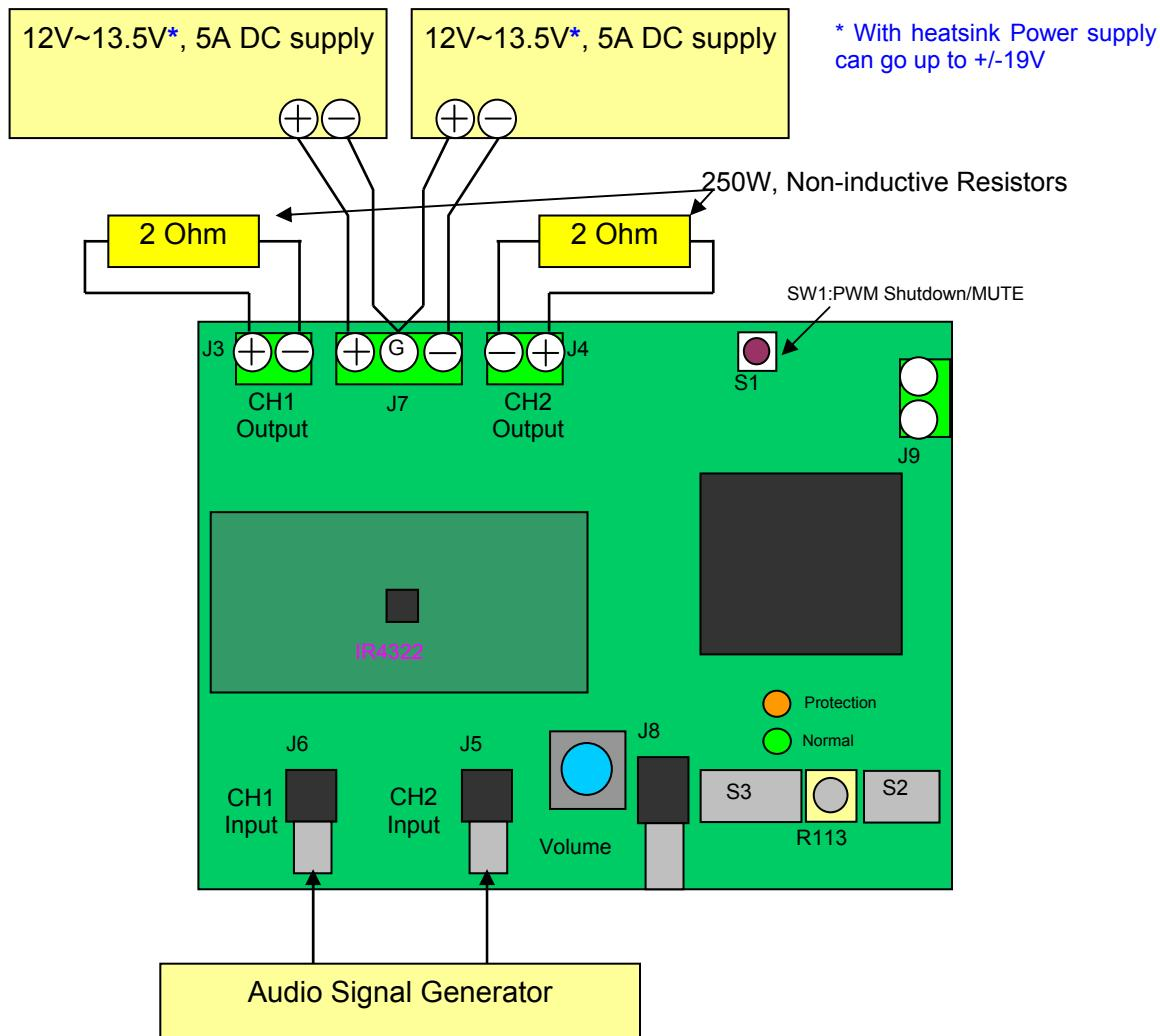

Figure 1 Typical Test Setup
1. Connect  $2\Omega$ -250 W dummy loads to output connectors (J3 and J4 as shown on Figure 1) and parallel it with input of Audio Precision analyzer (AP).
6. Connect the dual power supply to J7. as shown on Figure 1